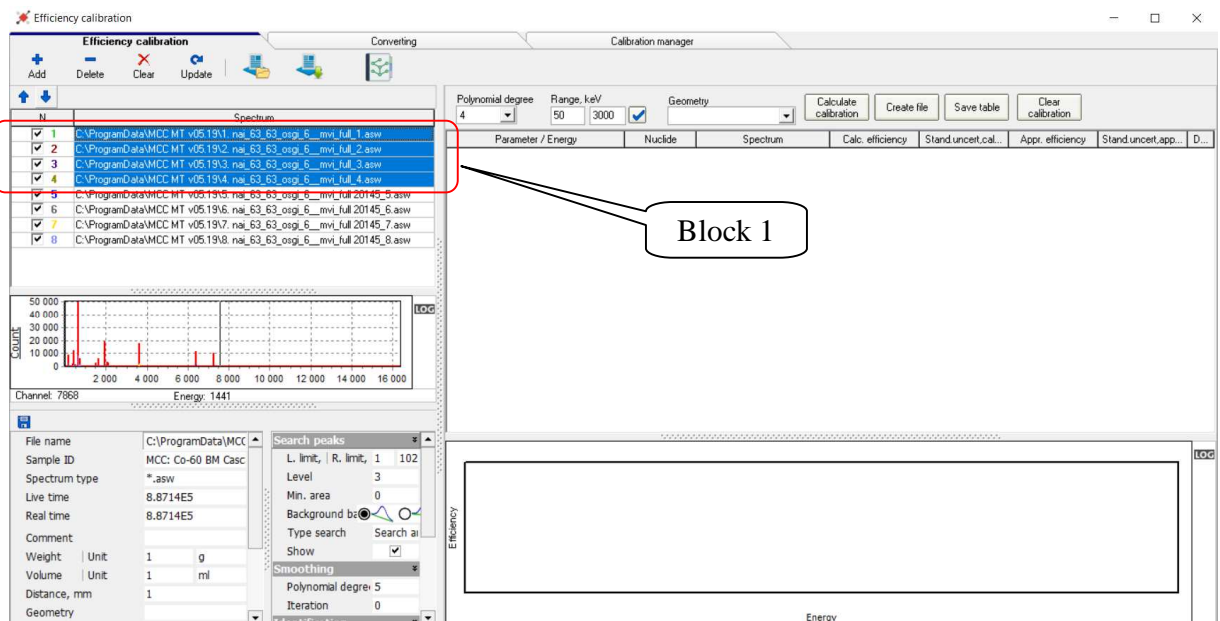

Figure 54.10
8.2.5 In the main menu of the module "MCC Viewer" select the item **Detectors->Efficiency calibration**, after which a new module **Efficiency calibration** will appear (see Fig. 54.10).
8.2.6 Because the first four spectra in the table are not blurred spectra (Fig. 54.10, block 1), they should not participate in further calculations and can be deleted using the button .